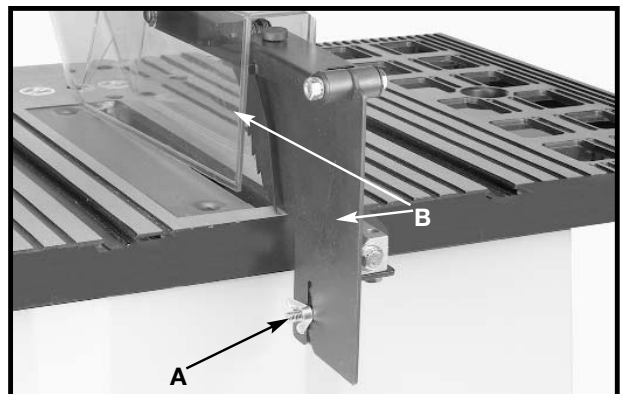

Fig. 48
Before dadoing, loosen wing nut (A) Fig. 48 and take off the blade guard and splitter assembly (B). Keep assembly handy to replace it after dadoing.